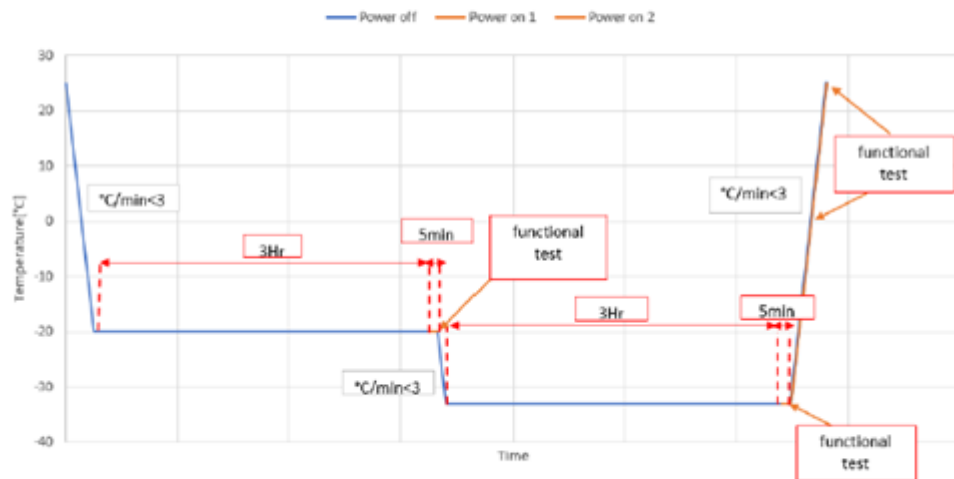

Figure 2: Low Temperature Operational Cycle
- 10. Lower the temperature to -20C for 3 hours as shown in Figure 2 below.
The minimum steady operational temperature is -20°C with design goal of -33°C according to Figure 2. The system shall be in operational mode during temperature rise time ($-33^{\circ}\text{C} \div 25^{\circ}\text{C}$) and should be tested at 0°C and 25°C